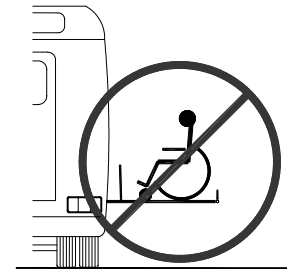

FIGURE 2-2: EXITING BACKWARDS IS HAZARDOUS
- Refer to **Figure 2-2**. Wheelchair occupant should face outward on platform when entering or exiting vehicle to minimize the possibility of the large rear wheels rolling up and over the front rollstop.